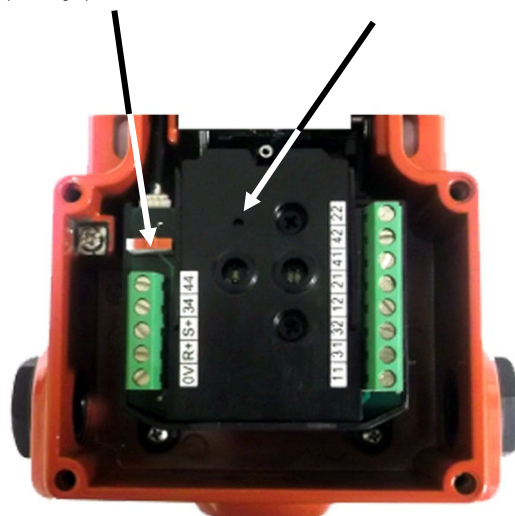

Fig. 2 Cover Removed
2. M5 (or appropriate) mounting bolts must be used to fix the switch and actuator mounting plates. The tightening torque to ensure reliable fixing is 4.0 Nm. Tightening torque for the lid screws and cable glands must be 1.5 Nm to ensure the IP seal. The actuator entry position (Front or End) can be selected by using the internal slide switch inside the switch cover (See Fig.2 on page 2).
- 3) Using a 2mm terminal screwdriver hold down the RESET button inside the switch housing and turn on the switch power (see Fig.2).